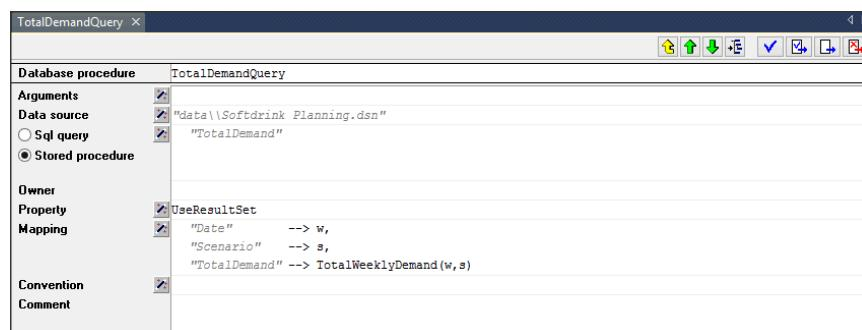

Figure 8.8: The completed attribute form of the database procedure TotalDemandQuery
- ▶ complete the attribute form as shown in Figure 8.8, and